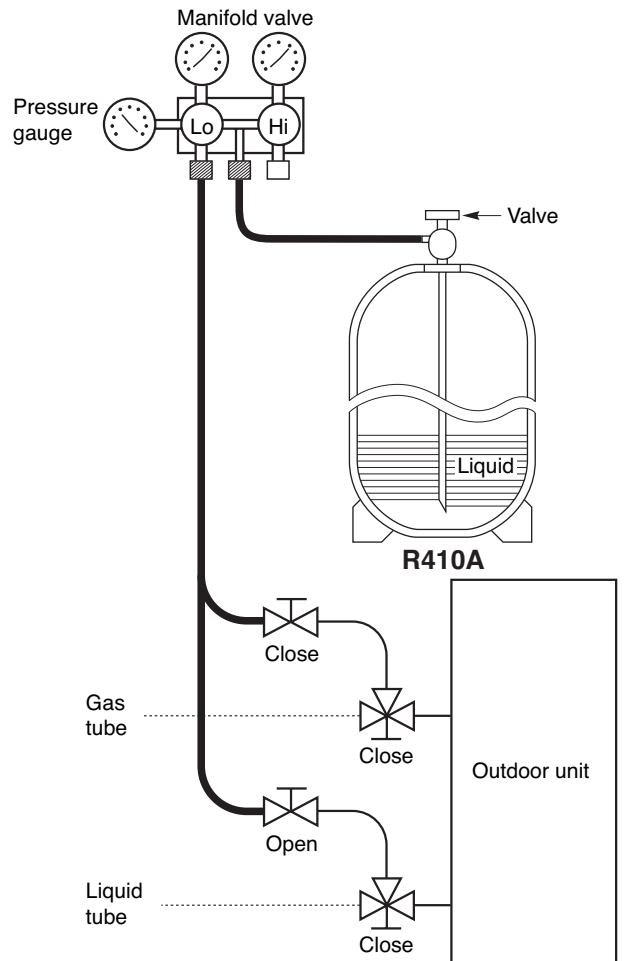

Fig. 7-5
- Charging additional refrigerant (calculated from the liquid tube length as shown in Section 1-7 “Additional Refrigerant Charge”) using the liquid tube service valve. (Fig. 7-5)